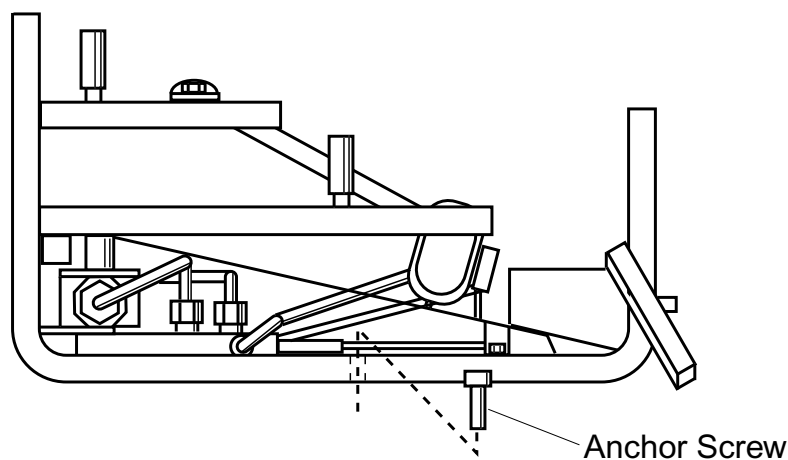

Figure 14 - Securing Heater to Floor of Fireplace/Firebox
2. See *Figure 14* for hole locations. After centering the grate correctly, mark the hole positions on the fireplace/firebox floor. Drill two (2) $\frac{5}{32}$ " diameter holes approximately $1\frac{1}{2}$ " deep.
3. Anchor the grate to the fireplace/firebox floor using the screws provided. See *Figure 14*.